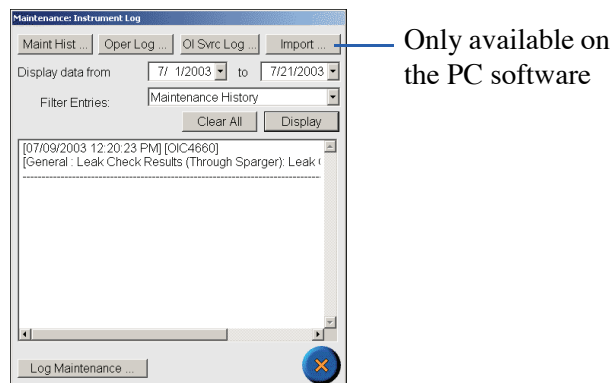

Figure 6.23. Maintenance: Instrument Log dialog box
3. Press **Instrument Log** to access the Maintenance: Instrument Log dialog box as shown in Figure 6.23.